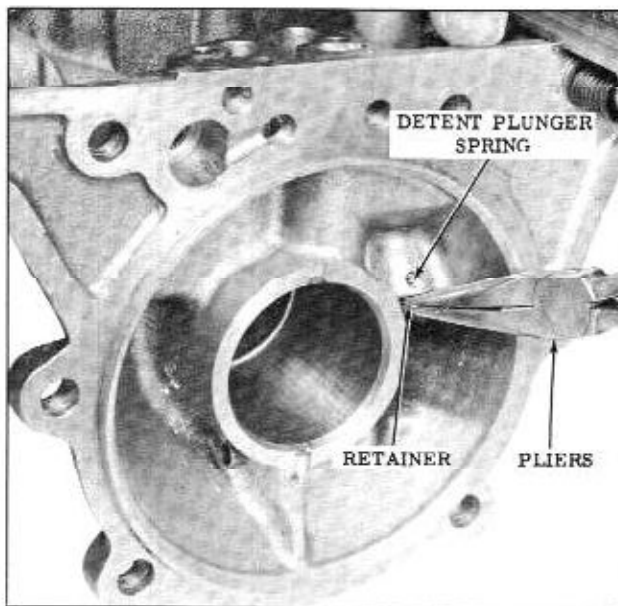

Fig. 3-70 Removing Detent Plunger
2. Remove the detent plunger and spring by holding plunger against spring tension while removing the retainer, (Fig. 3-70)
2. Install the detent plunger and spring, compress the plunger and spring and install the retainer. (Fig. 3-70)